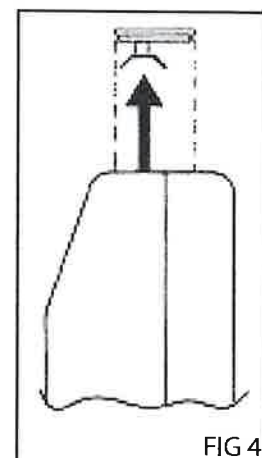

FIG 4
5. Replace the top grill removed in previous step 2 by pressing it into position until it locks. The aluminum reflector must be positioned over the UVC Germicidal Ultraviolet Lamp, nearest the front of the unit (FIG 4).